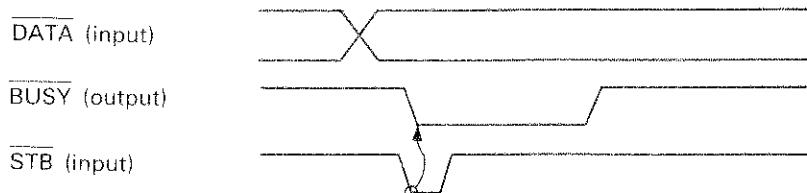

Fig. 5.3.3.A Synchronous Input Timing
3.5.1.A Synchronous input timing (Type A I/O card) Fig. 5.3.3.A shows the timing involved in inputting data using the command "IN."